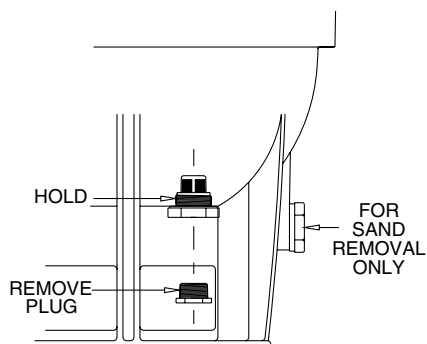

Figure 3 - Hold drain fitting and remove drain plug to drain filter.
4. Remove filter drain plug (Key No. 17B, Page 10) and drain all water from tank (see Figure 3). Hold drain fitting securely in filter body to avoid losing sand.